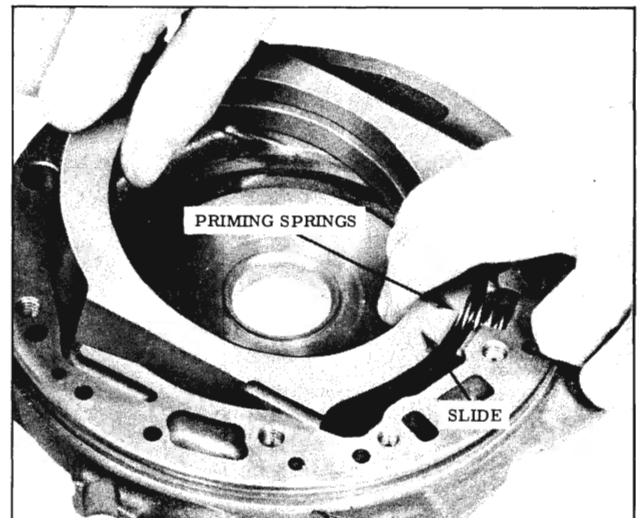

Fig. 3-55 Installing Pump Slide
- Assemble slide into pump body by compressing slide against priming springs at lower end until slide can be fully installed into pump. (Fig. 3-55)